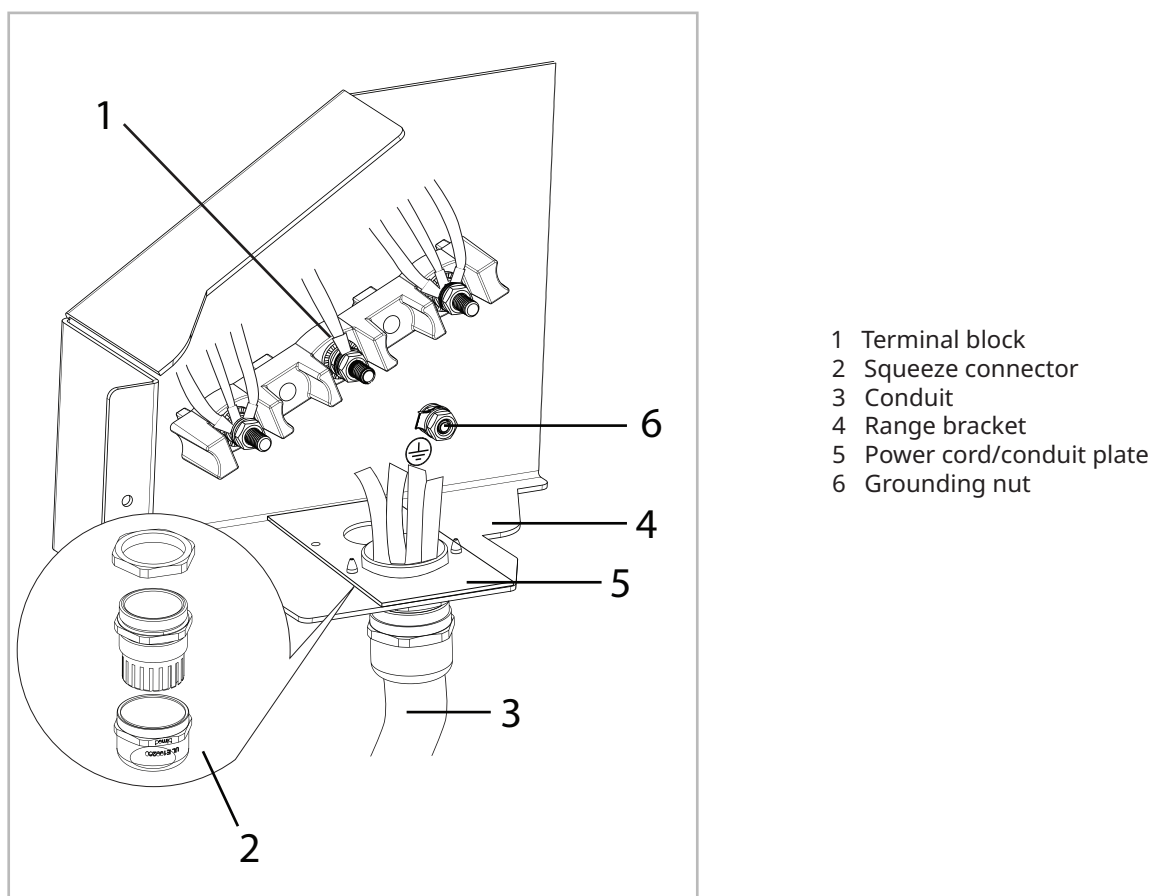

Figure 6
2.Determine the size of conduit needed and if necessary remove the power cord/conduit plate (part no 4) or reverse the plate so that the proper size opening in power cord/conduit plate for your conduit is directly over the 1-3/8 in opening in the range bracket, shown in Figure 6. Secure the power cord/conduit plate using the same screws that were removed to take the plate off.
3.Secure the conduit to the power cord/ conduit plate using a listed squeeze connector as shown in Figure 6.